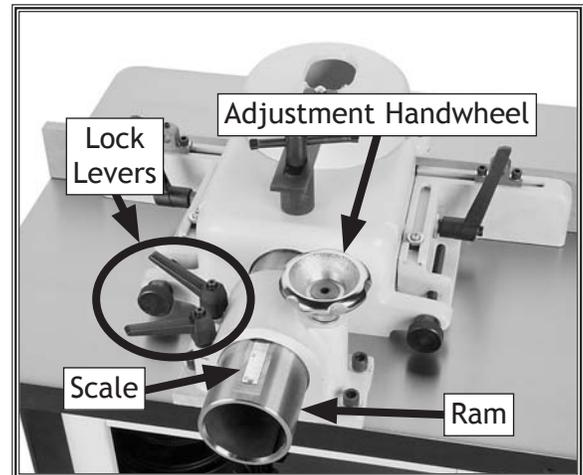

Figure 28. Fence assembly controls.
2. Loosen both ram lock levers shown in **Figure 28**.